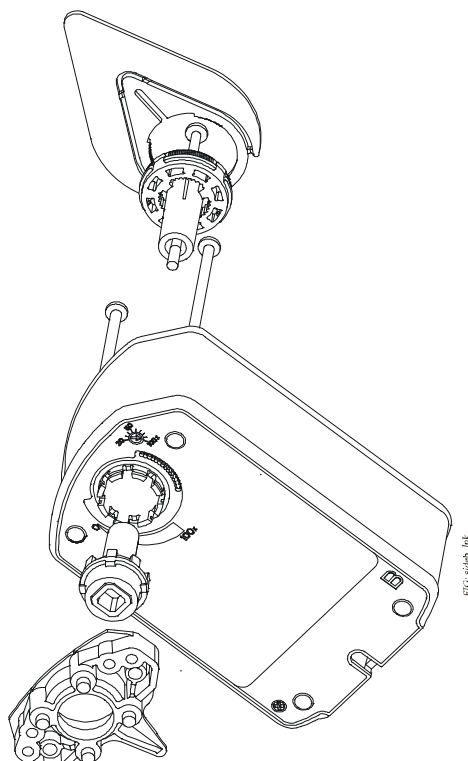

Figure 11: Removing the linkage
3. Remove the linkage from Side B (Figure 11).